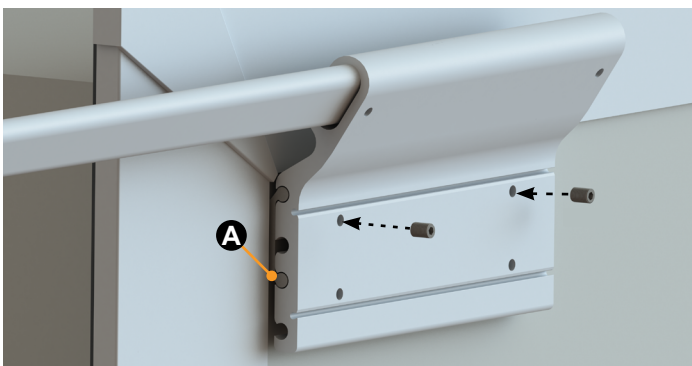
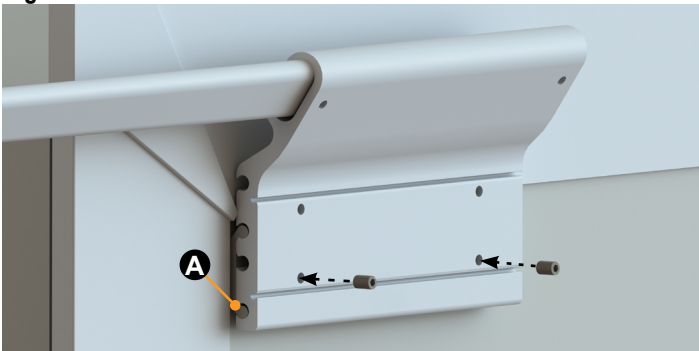

Fig.16
Fig.17
7. Install the two provided $\frac{1}{4}$ " - 20 x $\frac{1}{2}$ " set screws in the top two holes of the access bracket (Fig.16) if using the lower position. Install two set screws in the lower two holes of the access bracket (Fig.17) if using the higher position.